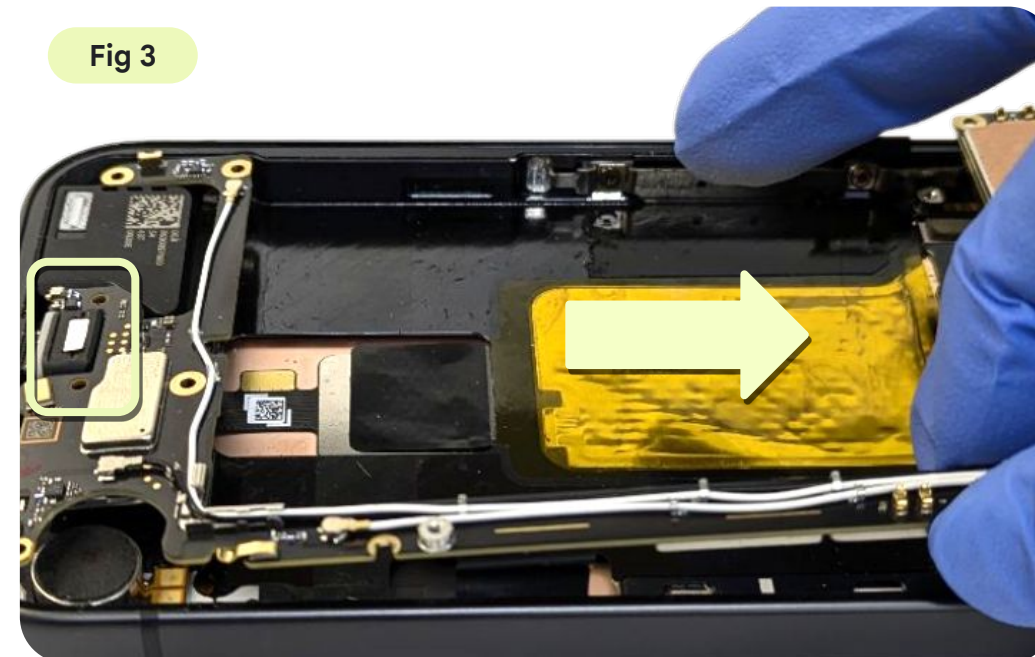

Fig 3
- Detach the USB module from the socket first as shown in Fig 3.